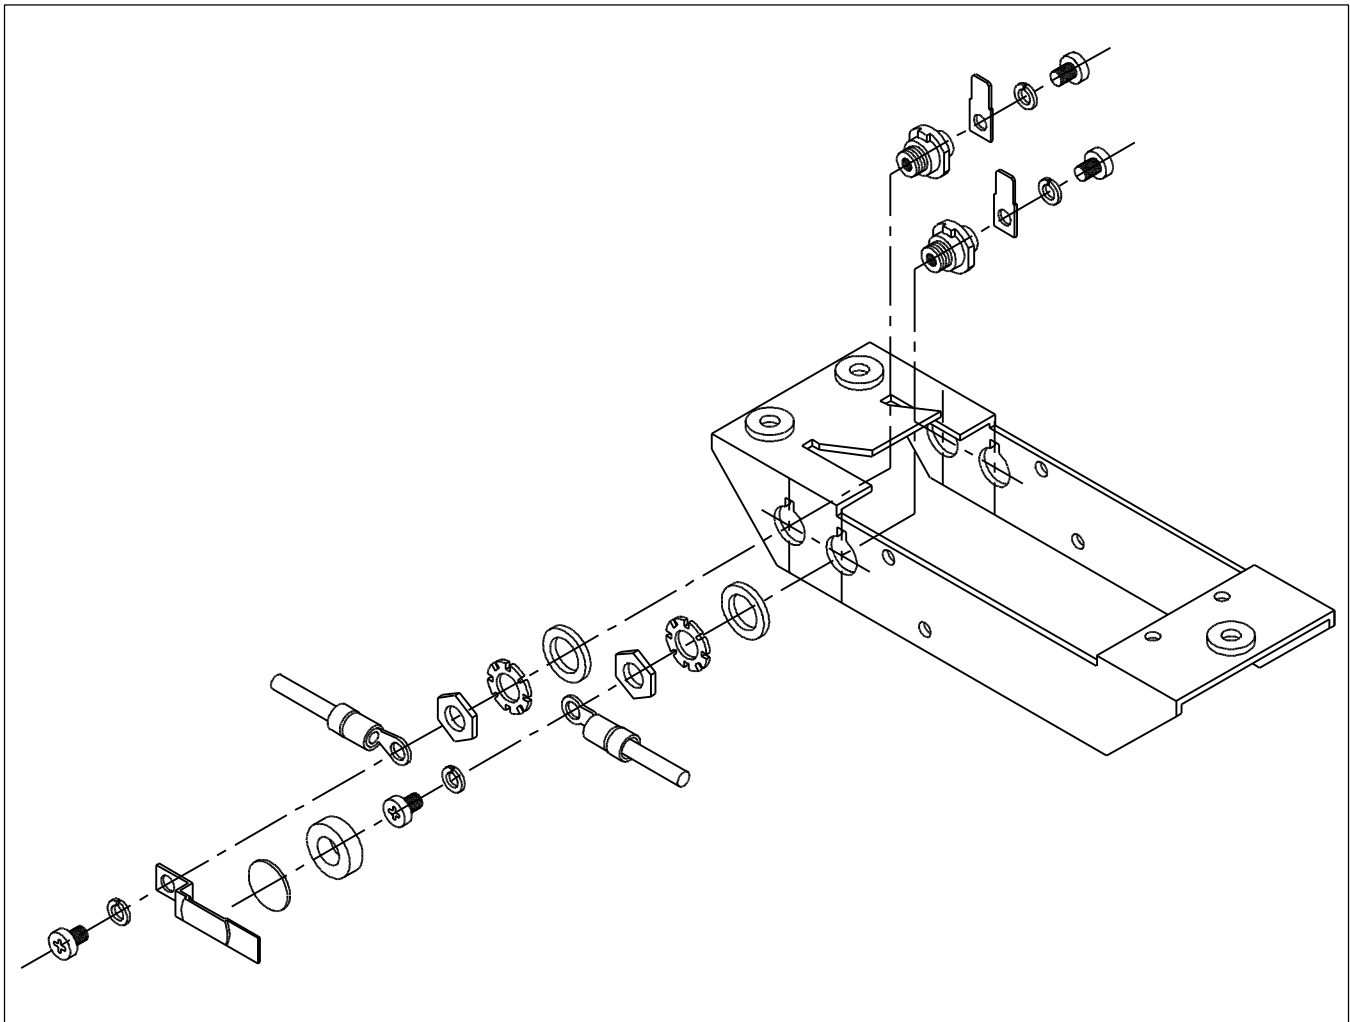

Figure 4. Replacing Film Disc Cutout Assembly
4. Remove and replace cordsets and film disc cutout hardware as required using Figure 4 as a guide.